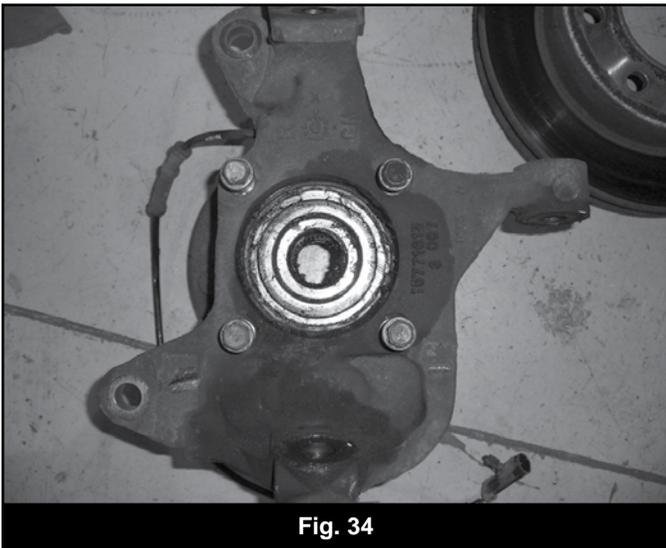
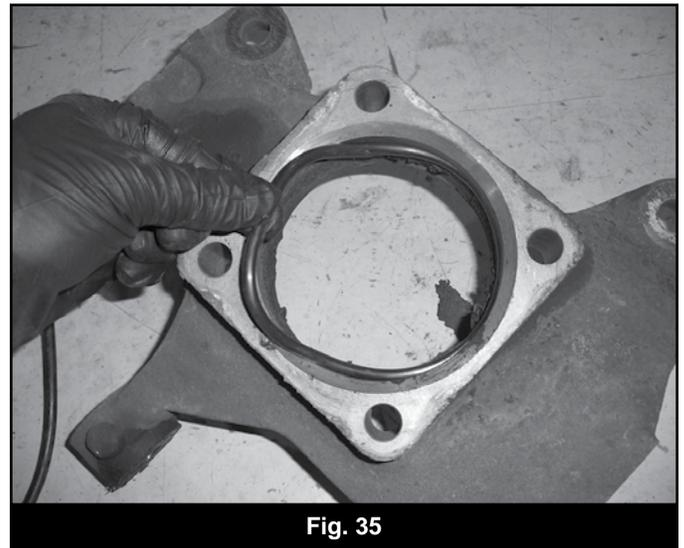

Fig. 34
Fig. 35
59. Remove the hub bearing and brake dust shield from the factory steering knuckles (Fig 34). Be sure to note which hub goes on which side of the vehicle. Locate the hub o-ring inside the knuckle hub bore. Using a small flat head screw driver remove the o-ring for use in the new knuckle (Fig 35). Save mounting bolts, o-ring, dust shield and hub, discard the knuckle.